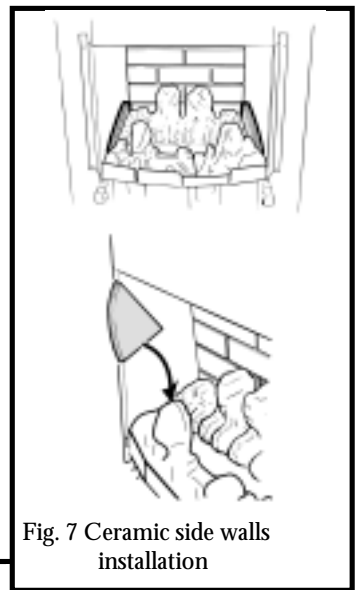

Fig. 7 Ceramic side walls installation
4. The ceramic side walls are marked at the rear bottom corners "L" (Left side) & "R" (Right side). Place the side walls against the sides of the fire box and in the recesses at the sides of the base coals. The markings "L" & "R" should be at the back bottom corners and facing to the centre of the back of the firebox (See figure 7).